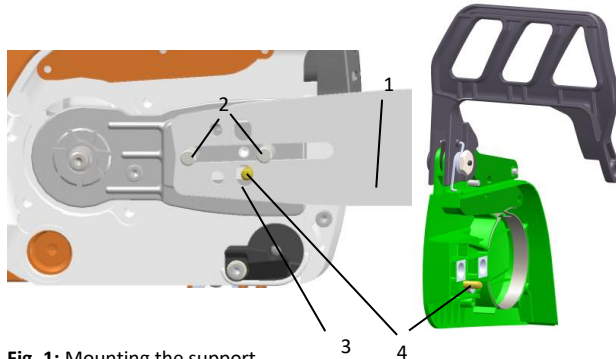

Fig. 1: Mounting the support
- > Place the guide bar (**1** - Fig.1) between the screws (**2** - Fig.1) in the same way as a normal chainsaw bar.
- > The hole (**3** - Fig.1) in the support must be located at the chain tensioner driver. Depending on the type of chainsaw, this is mounted on the motor side or in the cover (**4** - Fig.1).